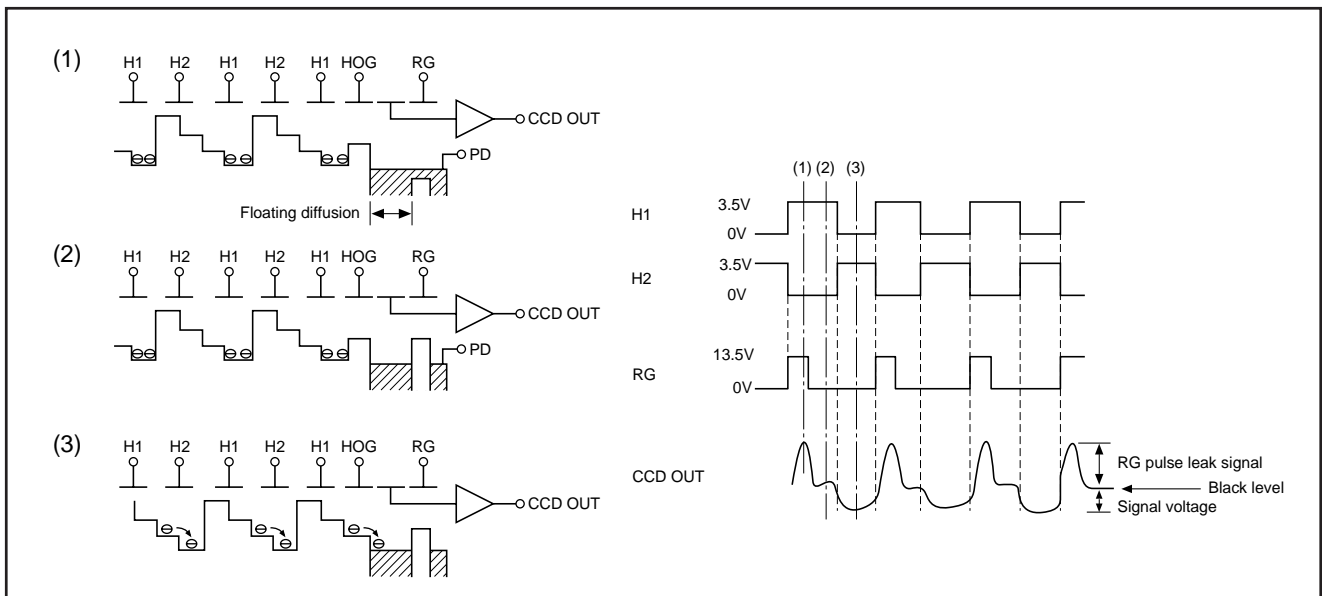

Fig. 1-5. Horizontal Transfer of CCD Imager and Extraction of Signal Voltage
The electric charges sent to the final stage of the horizontal CCD are transferred to the floating diffusion, as shown in Fig. 1-5. RG is turned on by the timing in (1), and the floating diffusion is charged to the potential of PD. The RG is turned off by the timing in (2). In this condition, the floating diffusion is floated at high impedance. The H1 potential becomes shallow by the timing in (3), and the electric charge now moves to the floating diffusion.